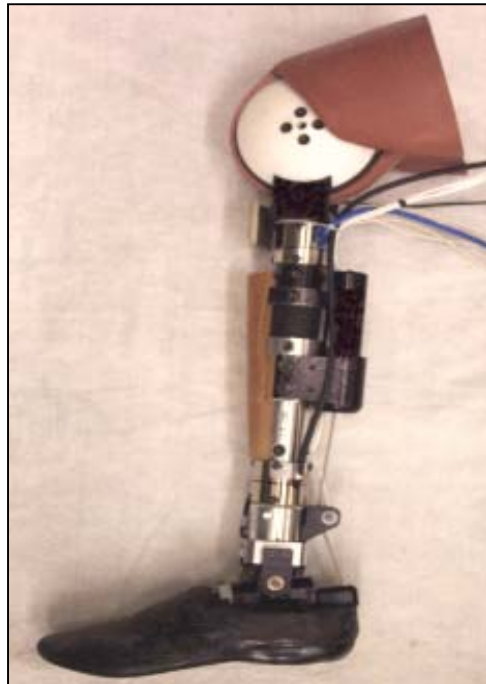
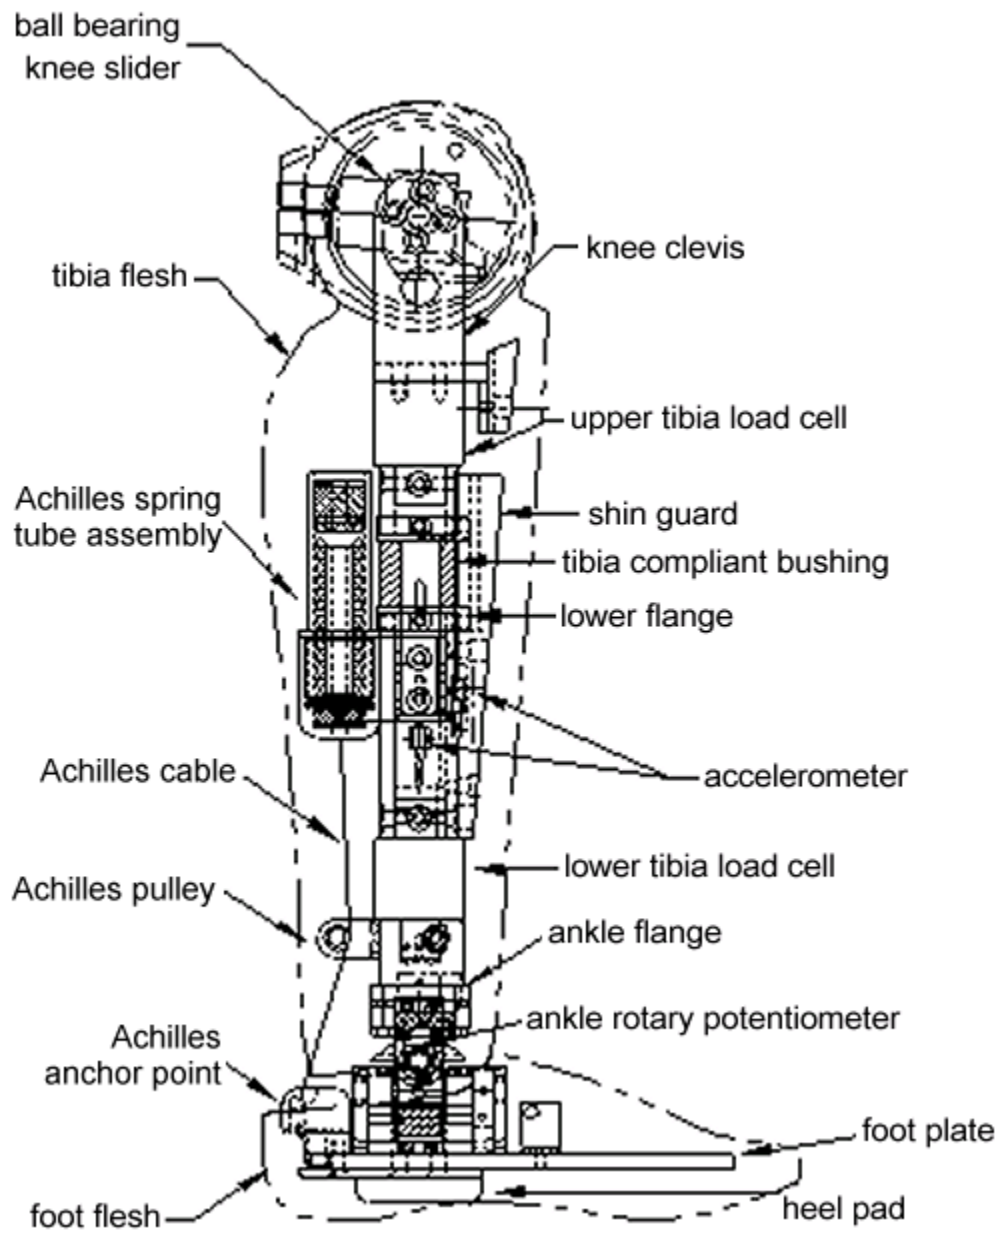
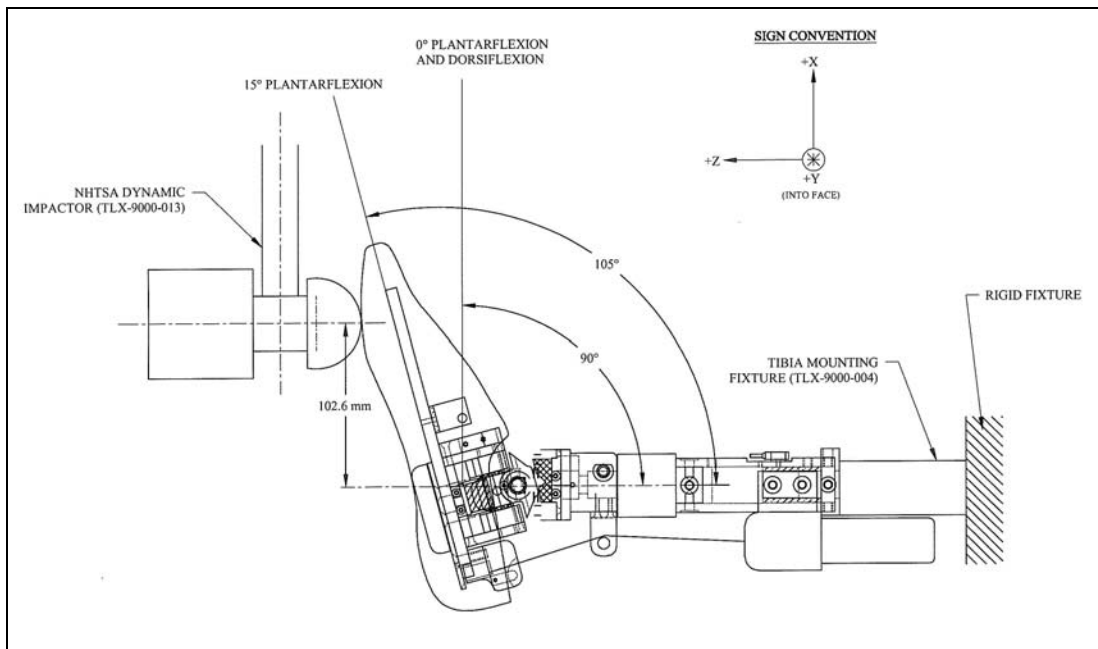
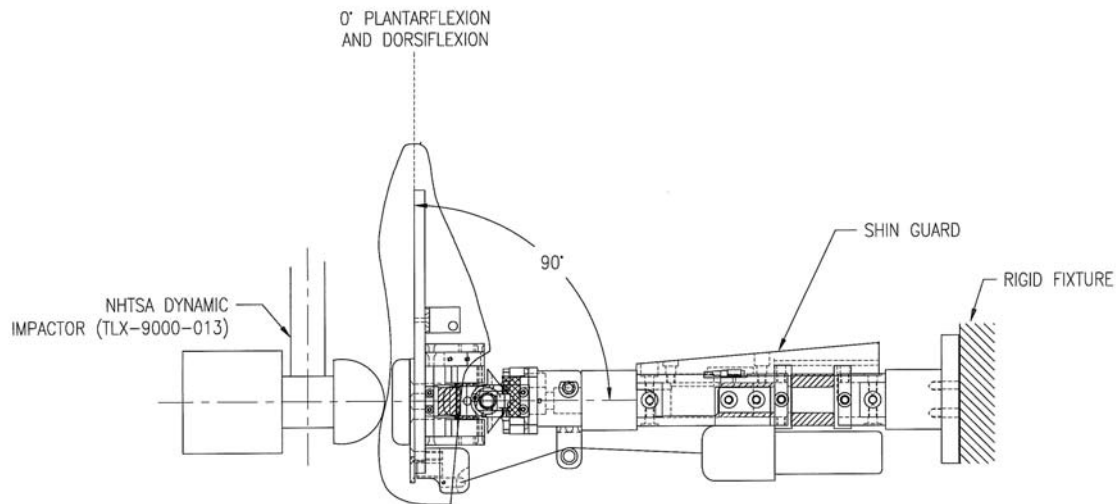

Figure 1. Thor-Lx/HIIIr (tibia flesh removed)
Figure 2. Thor-Lx/HIIIr Schematic
Figure 8. Ball of Foot Impact Test Setup
Figure 9. Heel Impact Test Setup
Thor-Lx/HIIIr is shown in Figure 1. The appropriate flesh elements for the tibia have been removed. Figure 2 is a schematic of the leg defining the key elements of the design. Detailed drawings of the individual components and assemblies can be found in the Thor-Lx/HIIIr drawing package, available at the NHTSA website. In addition, thorough instructions of the product assembly and disassembly are located in the Thor-Lx/HIIIr User's Manual, also available on the NHTSA website (http://www-nrd.nhtsa.dot.gov/departments/nrd-51/thor_LX/Thorlxweb.html).
This test consists of a dynamic impact to the ball of the foot. The leg is held rigidly with the tibia horizontal as shown in Figure 8, without the presence of the tibia compliant element.
3. Remove the tibia flesh from the leg. Remove the tibia compliant bushing assembly at the lower flange joint (Figure 2) and mount the leg to the tibia mounting fixture, with the toe pointing upward, as shown in Figure 8. The certification corridors were designed with the tibia compliant bushing assembly removed, and testing with this assembly attached to the leg may alter performance. The test fixture must be rigidly secured so that it does not move or vibrate excessively during impact.
6. Allow the foot to rest in the neutral position (Figure 8). Verify with the Y-axis potentiometer that the foot is at $15 \pm 0.5^\circ$ plantarflexion. Leave the foot in the neutral position for impact. Readjust the foot to this position between impacts.
7. Adjust the fixture so that the longitudinal centerline of the pendulum arm is vertical at impact, within $\pm 0.5^\circ$, and the point of impact is 102.6 ± 2.5 mm (4.04 ± 0.1 in) above the ankle Y-axis pivot point (reference Figure 8).
This test consists of a pendulum impact to the heel of the foot. The leg is held rigidly with the tibia horizontal (Figure 9).
3. Remove the tibia flesh. Remove the knee clevis and mount the tibia to the test fixture at the proximal end of the upper tibia load cell or load cell simulator (Figure 2) with the toe pointing upward, as shown in Figure 9. The test fixture must be rigidly secured so that it does not move or vibrate excessively during impact.
5. Orient the foot at 0^o +/- 0.5^o plantarflexion (Figure 9). Use an external positioning bracket to hold the ankle in this orientation (reference Figures 7a and 7b).
7. Adjust the fixture so that the longitudinal centerline of the pendulum arm is vertical at impact, within $\pm 0.5^\circ$, and the impact point is aligned with the longitudinal axis of the tibia, within ± 2.5 mm (± 0.1 in) (Figure 9).